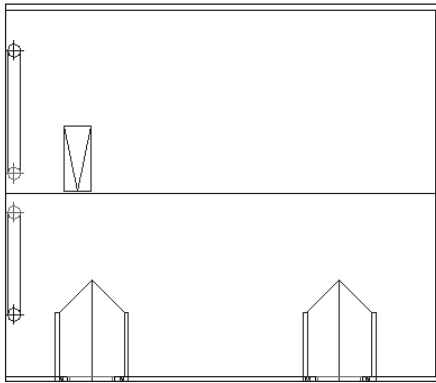

Figure 10-26: The longer garage
5. Save your drawing. It should look like Figure 10-26.